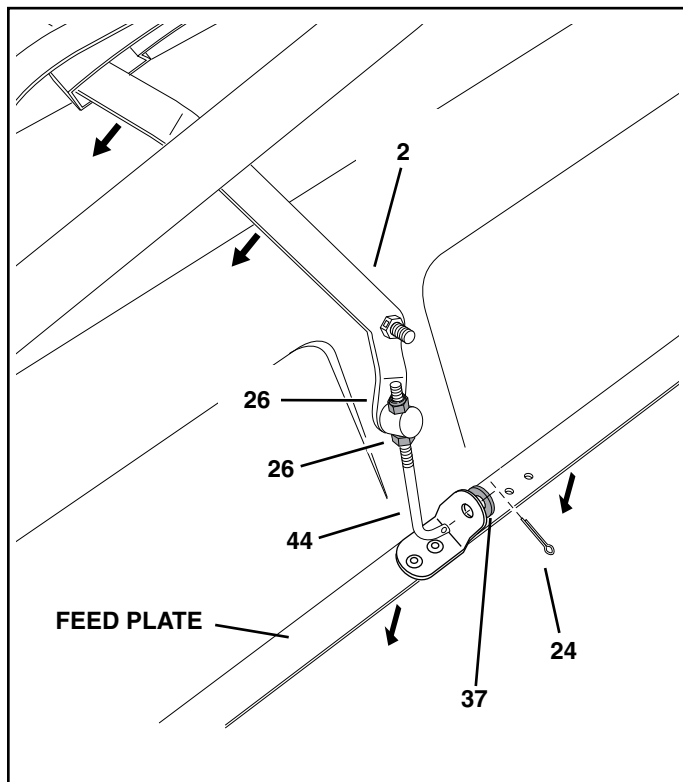

FIGURE 11
- Move the flow control lever (2) as far as it will go to the "OFF" position. Push the feed plate back as far as it will go to the closed position. See figure 11.
- Place the bent end of the flow control link (44) into the feed plate bracket and a 1/4" flat washer (37). Secure it with a 3/32" x 3/4" cotter pin (24). See figure 11.
- Tighten the lower 1/4" nylock hex nut (26) until it touches the bottom of the ferrule, then tighten the upper 1/4" nylock hex nut (26) until it is snug against the top of the ferrule. See figure 11.
- Open and close the feed plate using the flow control lever. Check to make sure the feed plate is closed completely when the lever is in the "OFF" position. If the feed plate does not close completely, adjust the 1/4" nylock hex nuts (26) on the flow control link (44). See figure 11.